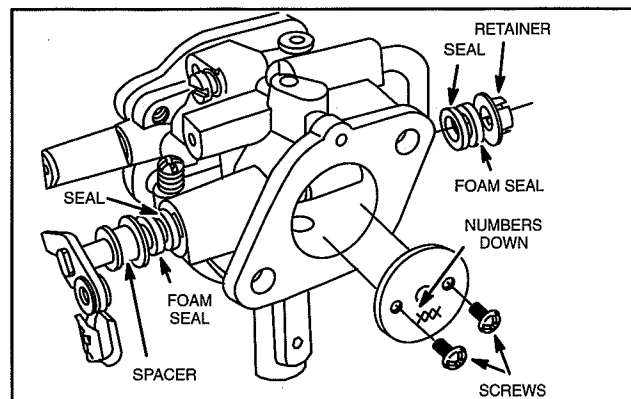

Fig. 36 – Install Throttle Shaft
5. Install foam seal and retainer, Fig. 36.